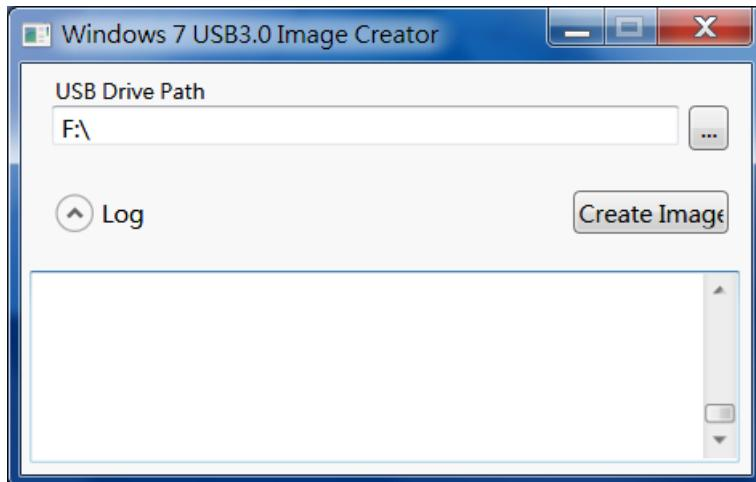

Figure 4-21: Windows 7 USB 3.0 Creator Utility
Step 6: The Windows 7 USB 3.0 Creator Utility screen appears (**Figure 4-21**). Click to browse to the root of the USB drive containing the Windows 7 image.